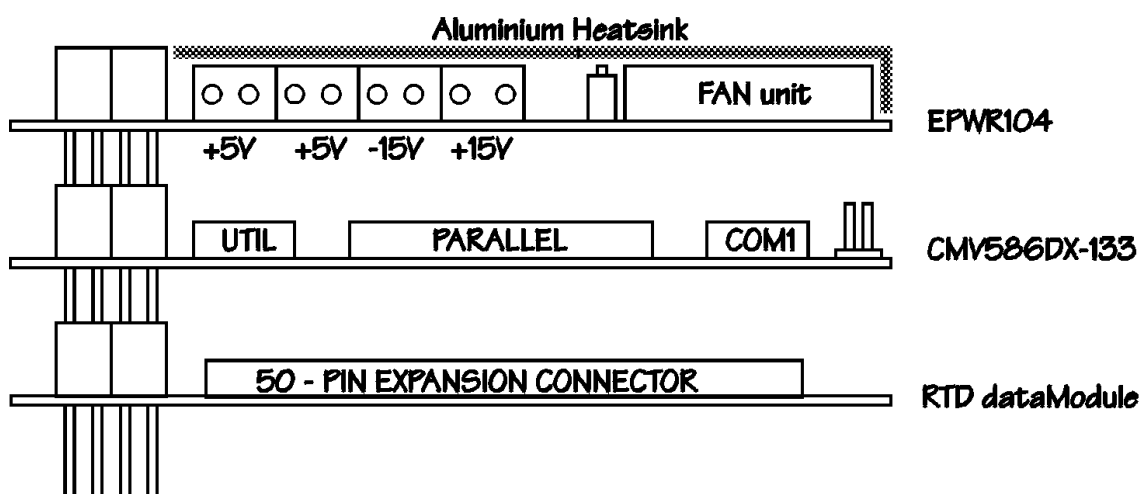

Fig. 1-1: EPWR104HR integrated in a RTD PC/104 cpuModule stack
- Fig. 1-1:** EPWR104HR integrated in a PC/104 RTD cpuModule stack